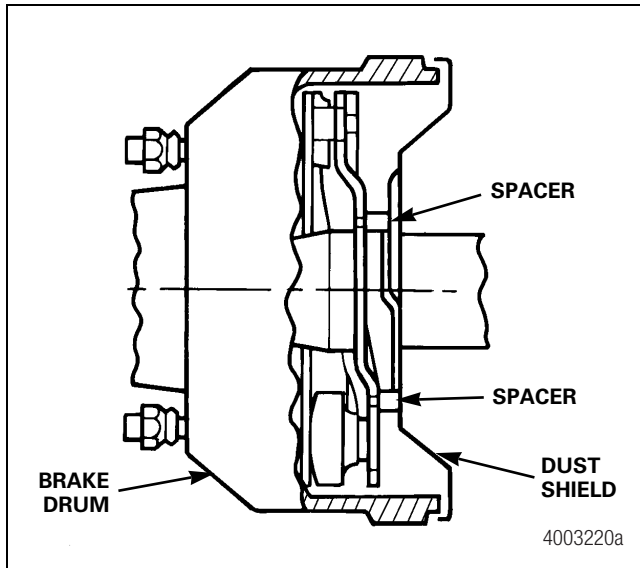

Figure 6.18
- On axles built with 16.5 x 8, 8.625-inch and 10-inch brakes, a spacer assembly is installed to space the dust shield to accommodate the wider brake equipment. Figure 6.18.